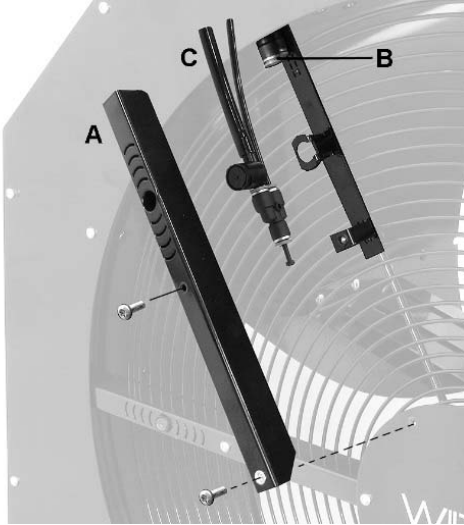

Figure 7-1
- If an individual nozzle is blocked, remove post (A, Figure 7-1), push blue rings (B) to pull out hoses, and remove entire nozzle unit (C). Soak nozzle unit in vinegar. Reinstall nozzle unit and test.